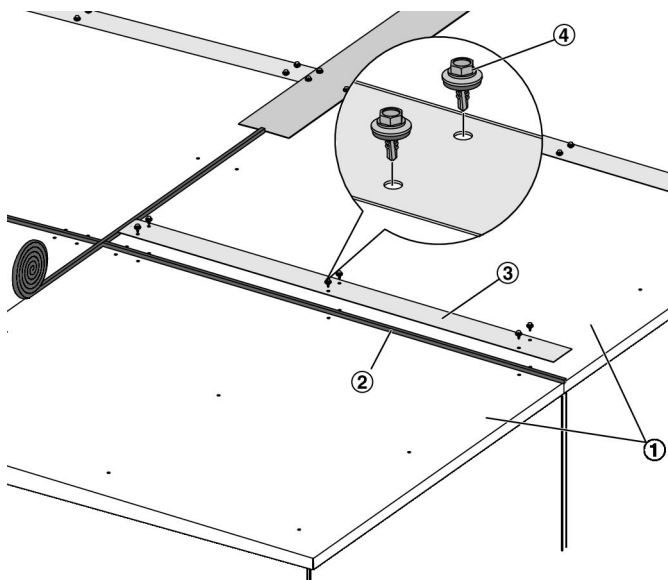

Fig. 20: Joining roof segments
- ① Roof segments
- ② Self-adhesive joint sealing tape
- ③ Cover strips
- ④ Self-drilling screws with sealing washers
1. ▶ Seal all joints between the roof segments ( Fig. 20 /1) with self-adhesive joint sealing tape ( Fig. 20 /2). Follow the tape manufacturer's instructions for use. Attach the cover strips ( Fig. 20 /3) and fix them with self-drilling screws ( Fig. 20 /4).